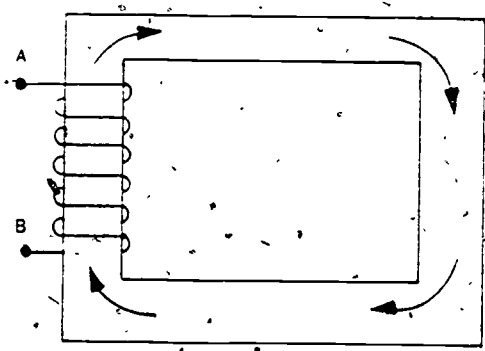

Figure 6. Determining Current Flow in a Coil
8. Indicate the direction of current through the coil in figure 6 in order to establish flux in a clockwise direction through the iron core.